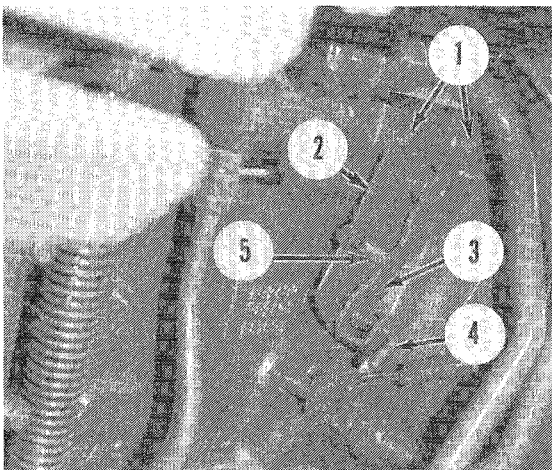

Fig. 182—When reinstalling tow disconnect assembly, align stop plate (2) and shift lever (3) as outlined in test before tightening mounting screws (1).
To adjust tow disconnect, move shift lever (3—Fig. 182) forward to position shift collar against reduction gear. Center the shift yoke shoes in the shift collar groove, then move the stop plate (2) until the "engaged" detent hole in plate is aligned with the lever latch pin (4). Tighten stop plate mounting cap screws (1), then reconnect lever spring (5).